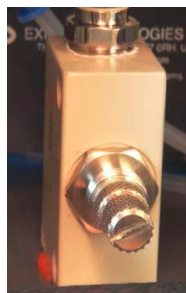

Figure 7 Leakage Compensation Valve (LCV)
- Open the Leakage Compensation Valve (LCV) fully, turn counter-clockwise. Clockwise will reduce the flow and counter-clockwise will increase the airflow. (Figure 7)